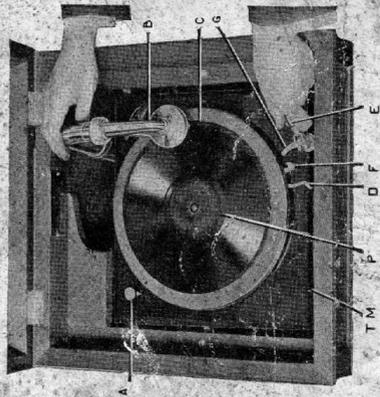
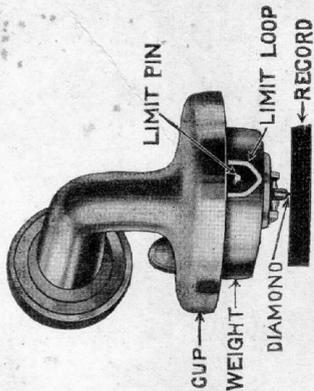

Fig. 1
Fig. 4
Refer to Figure 1.
2. With the Operating Handle (E, Fig. 1) turned down in horizontal position, see that the horn swings freely from right to left, without striking the two holding clamps or other obstruction.
4. Carefully remove the card-board packing between Reproducer Cup (Fig. 4) and Reproducer Weight (Fig. 4), and attach Reproducer to horn as shown in Fig. 1. The Reproducer is firmly secured in place by turning the locking ring, on end of horn, to the left.
If at any time the safety stop operates too soon (on long selections) or too late, so as to permit the diamond point to run over onto the record label, it should be corrected by a slight adjustment of the hinged lever (M) to right or left as the case may require. In order to make this adjustment, it is necessary to loosen set screw (L) and when correct adjustment is made, the screw (L) must be made tight in order to hold the adjustment. The stop should be timed so as to stop turn-table when the diamond point of the Reproducer reaches the outer circle of the record label (P, Fig. 1).
- (c) If speed is found to be over 80, it may be corrected by turning the speed adjusting knob (A Fig. 1) slightly to the right until correct speed is obtained.
- (d) In rare cases the speed may be found to be less than 80 turns per minute. If speed is 78 to 80, it will be satisfactory. If speed is less than 78 and correct adjustment can not be made with speed adjusting knob (A, Fig. 1) it is to be made by means of a special adjusting screw, which will be found in the speed adjusting lever beneath top plate. This screw is reached by removing the front grille and reaching into the horn compartment to the left of the horn. When correction by the latter method is necessary, it will require the use of a screw driver.
- (a) Turn speed adjusting knob (A, Fig. 1) to right as far as it will go.
Fig. 4 shows the correct setting of the Reproducer when in playing position. Note that the "Limit Pin" is located in the center of the "LIMIT LOOP," at a distance below the "Cup" about equal to its own diameter (of pin).